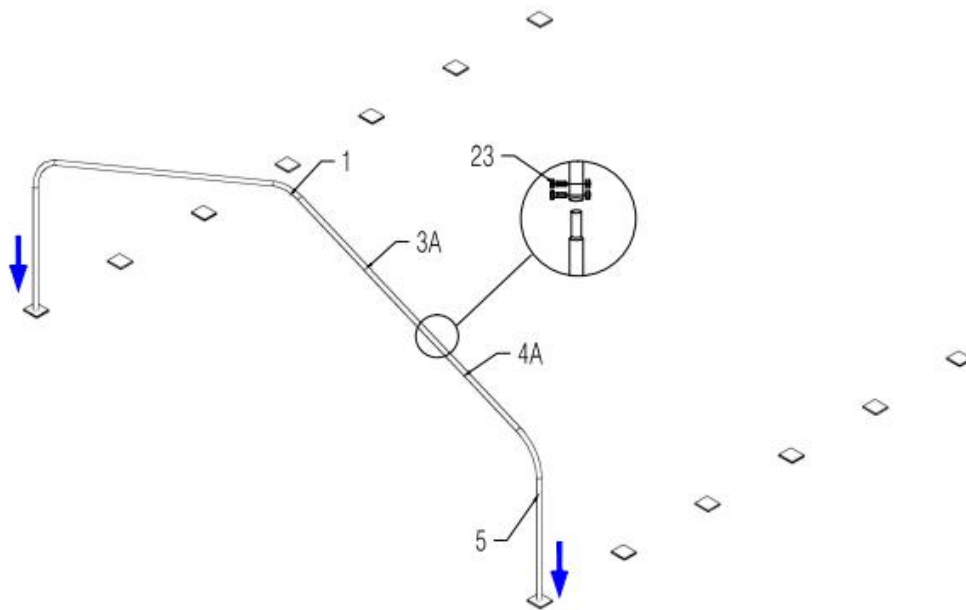

Figure 2
1. As **Figure 2** shows to find two of Upper sidewall tube(No.3A) for doors, two of Bottom sidewall tube (No. 4A), two of Standing leg (No. 5) to be one group which connect with **Three way fitting**(No.1) by using Carriage bolt M10x90 (No.23) Please be aware that the part No 3A and part No 4A is installed for front and back door. **DO NOT install the screw on the top of the truss where the fabric will rest.**